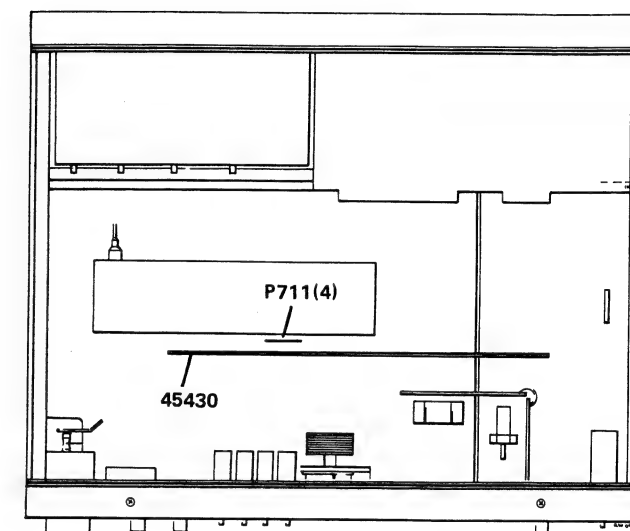

Figure 27 Test points
- Pull out interconnector board No. 45430 (see figure 27).
- Connect a d.c. millivoltmeter (range 100 mV) to P711, pin 4 (strap next to R786 on the main board, see figure 27).
- Put back interconnection board No. 45430 (see figure 27).